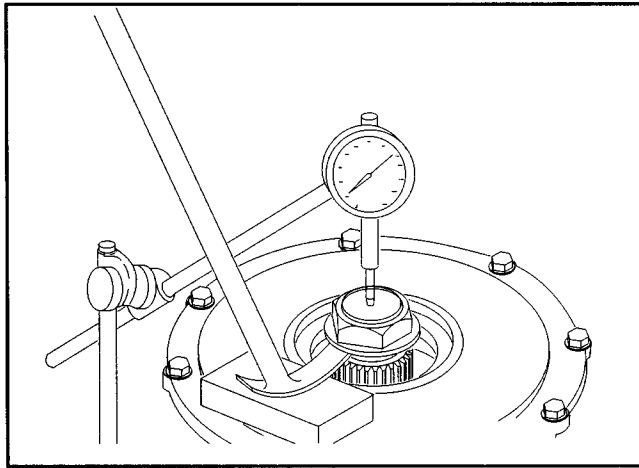

Figure 15
16. Position dial indicator onto end of input shaft (See Figure 15). Using suitable pry bar and spacer, Pry input shaft out and record end play.